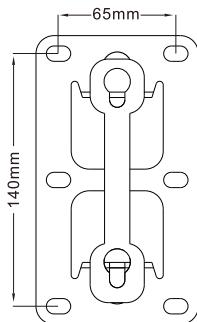

Figure 1
- 1.Use an 8mm drill to drill 4 holes on the mounting wall as per the dimensions shown in Figure 1. The size of plastic anchor is ø8*40mm.